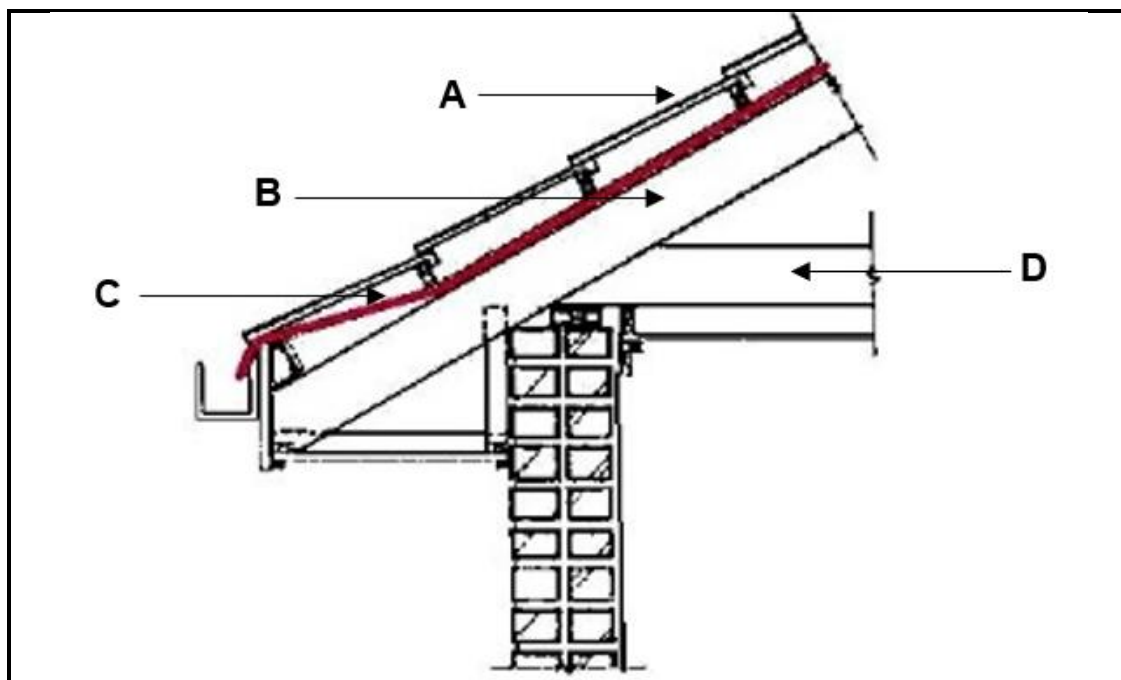

FIGURE 5.9
- 5.9 Answer the following questions regarding the roof construction in FIGURE 5.9.